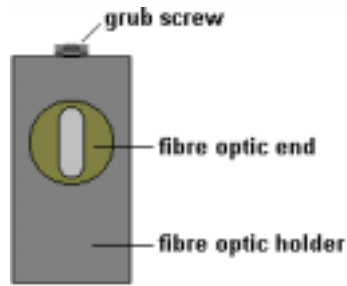

Figure 90 Right holder grub screw
16. Rotate the fibre until it is vertical then tighten the grub screw, as shown in Figure 90.